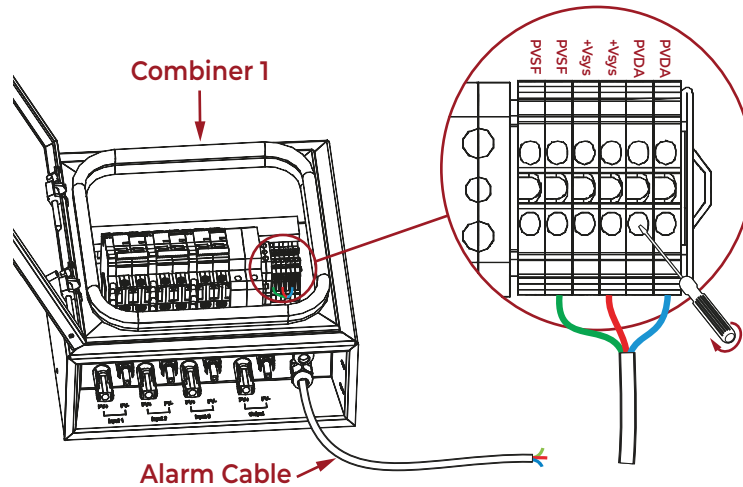

Figure 4-14 Connecting the Alarm Cable to PV String Combiner #1
2. Connect the labelled wires to the corresponding terminals respectively labelled as PVSF, +Vsys, PVDA of the Combiner 1 (Figure 4-14).